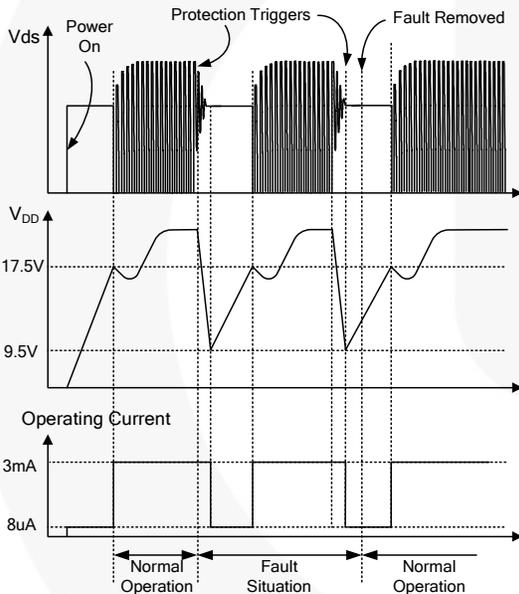

Figure 21. Auto Restart Operation
**Auto-Restart Mode Protection:** Once a fault condition is detected, switching is terminated and the MOSFET remains off. This causes  $V_{DD}$  to fall because no more power is delivered from auxiliary winding. When  $V_{DD}$  falls to  $V_{DD-OFF}$  (9.5V), the protection is reset and the operating current reduces to startup current, which causes  $V_{DD}$  to rise. FAN6861 resumes normal operation when  $V_{DD}$  reaches  $V_{DD-ON}$  (17.5V). In this manner, the auto-restart can alternately enable and disable the switching of the MOSFET until the fault condition is eliminated (see Figure 21).